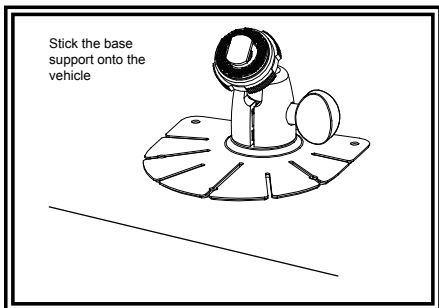

Figure 1
4. Select suitable position on vehicle and fix the base support. (Figure 1) The base has pre-drilled screw holes if needed.